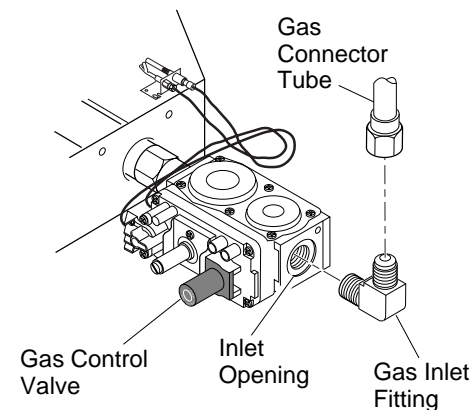

Figure 12 - Installing Inlet Fitting and Gas Connector Tube
7. Install the inlet fitting into the inlet opening of the gas control valve (see Figure 12). Use thread sealant on the male pipe threads.
10. Install the gas connector tube to the gas supply adaptor. Carefully shape tube and attach to gas inlet fitting (see Figure 12). Be careful not to cause kinks in tube.